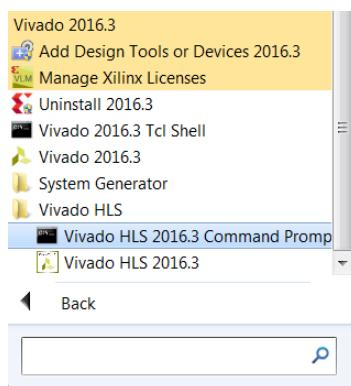

Figure 10-1: Vivado HLS Command Prompt
- On Windows use **Start > All Programs > Xilinx Design Tools > Vivado 2018.2 > Vivado HLS > Vivado HLS 2018.2 Command Prompt** (Figure 10-1).